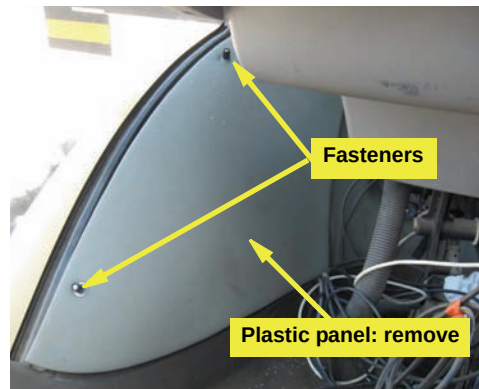

Figure 2b: Plastic panel and fasteners
- b. Locate the plastic panel to the right of the seat and against the window and remove by twisting the two fasteners (Figure 2b).